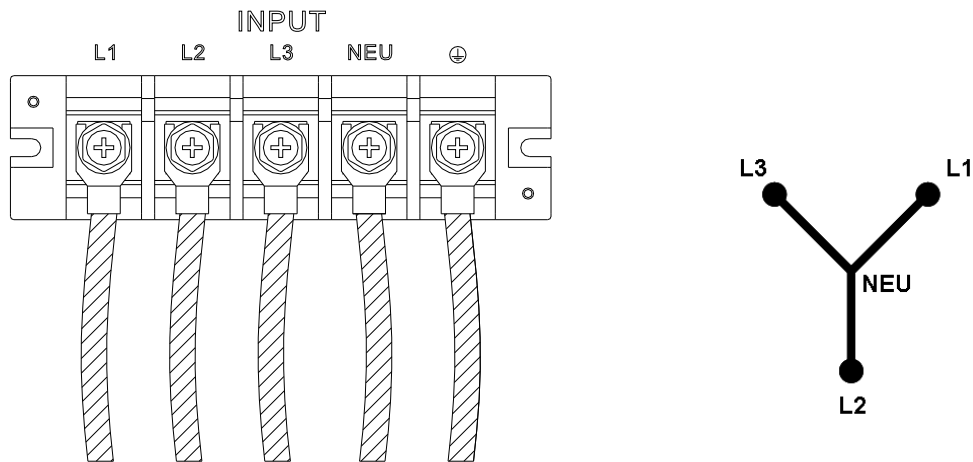

Figure 2-2 3-Phase Power Input Connection (Y Connection) 190-250 V
The input terminal block is located beneath the device's rear panel. The power cord should be rated at least 85°C and the current rating of power line input must be greater than or equal to the maximum current rating of AC Source. The input selector is located on the rear panel (see Figure 2-2.) Adjust the selector according to the power input (Delta or Y) method.
See Figure 2-2 and perform the steps below accordingly:
2. Connect the wire to the AC Source terminal blocks (see Figure 2-2.)